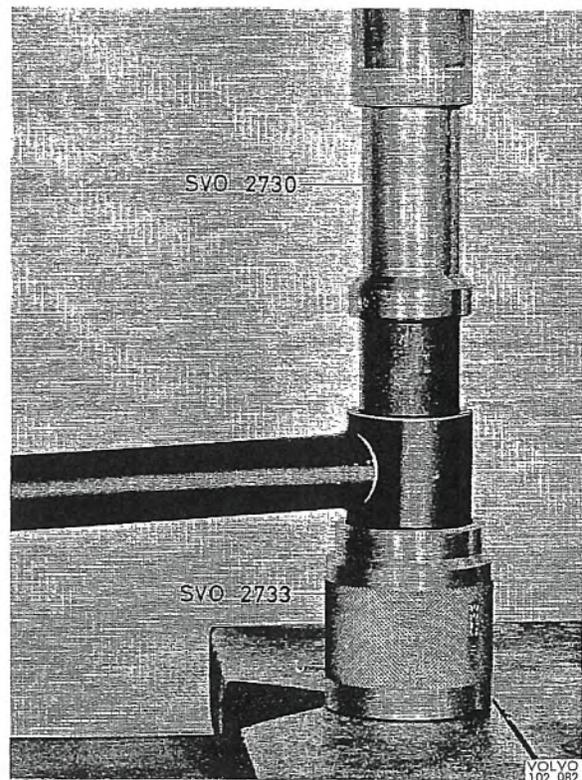

Fig. 7-13. Removing front bush on torque rod
7. When pressing in a new front bush, turn 2730 as shown in Fig. 7-13. Use 2733 as a counterhold.